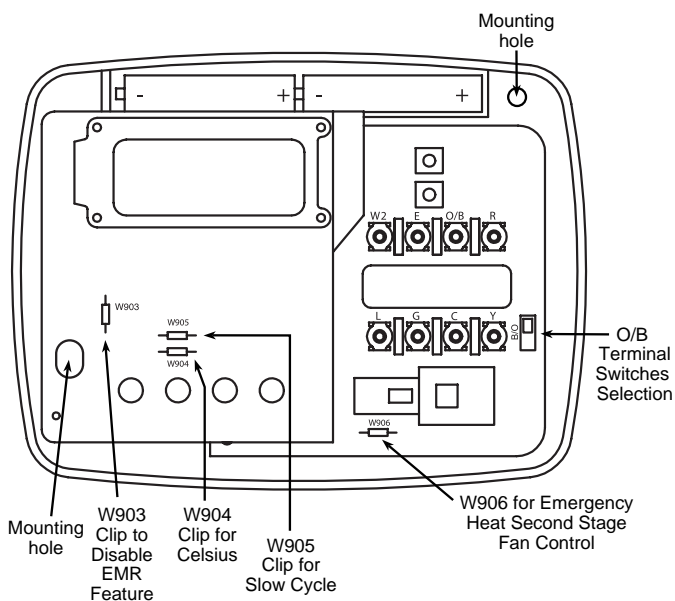

Figure 1. Thermostat base
If your emergency or auxiliary system will energize the blower, then jumper W906 on the thermostat base must be cut (see fig. 1).
To disable EMR, clip jumper W903 (see Fig. 1).
5. Fasten base loosely to wall, as shown in fig. 1, using two mounting screws. Place a level against bottom of base, adjust until level, and then tighten screws. (Leveling is for appearance only and will not affect thermostat operation.) If you are using existing mounting holes, or if holes drilled are too large and do not allow you to tighten base snugly, use plastic screw anchors to secure subbase.
This thermostat does not require batteries to operate. The 2 “AAA” alkaline batteries are for the thermostat to remember the programming if AC voltage is lost. If the display shows **BATT** when AC power is not present, the batteries are low and should be replaced with fresh “AAA” Energizer® alkaline batteries. To replace the batteries, install the batteries along the top of the base (see fig. 1). The batteries must be installed with the positive (+) ends to the right.